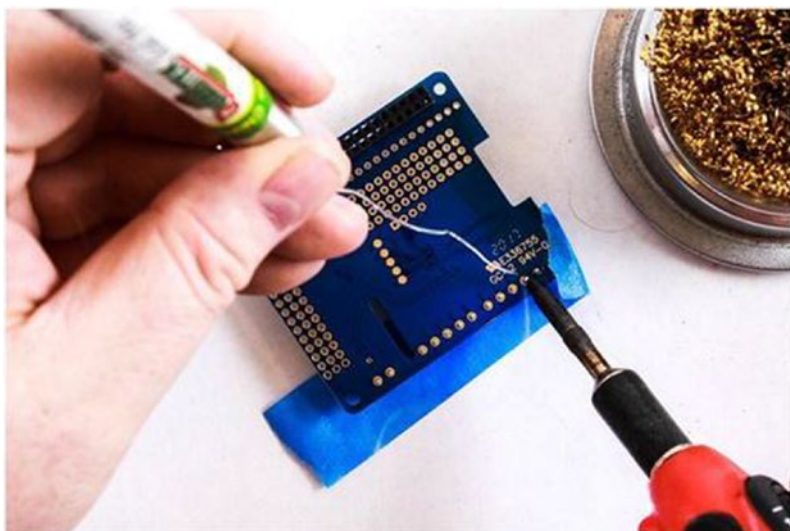

Figure 6-13. *Soldering the terminal pins*
10. Solder the terminals in place (see Figure 6-13).